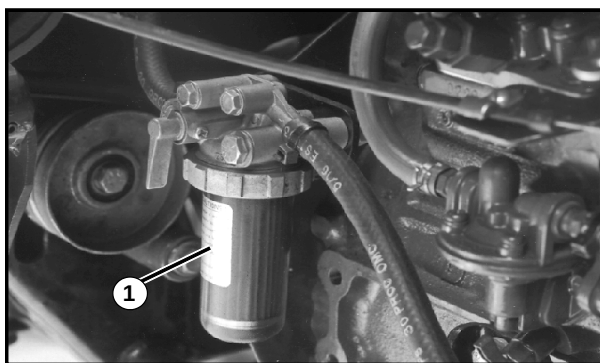

Figure. 5.7.1
- (a) Unscrew locking ring and remove filter element (2 Fig. 5.7.1) and discard.